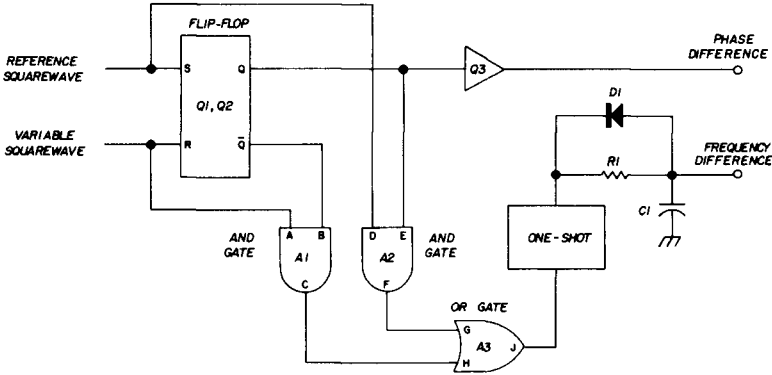
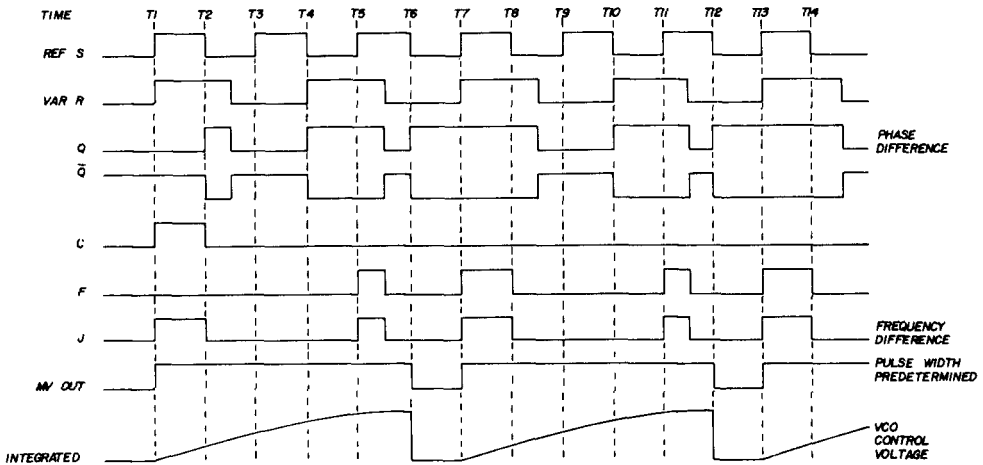

fig. 7. Logic diagram of a frequency and phase comparator.
fig. 8. Timing diagram of the frequency and phase-comparator stage in **fig. 7**.
If it's necessary that the synthesizer automatically set itself to a new frequency (as would be the case in a remote control situation), the circuit shown in fig. 7 could be used. The flip-flop is identical to that used in the phase comparator in fig. 4. It is shown here in its logic symbol form, which is easier to work with.
Briefly reviewing its operation, the reference squarewave is applied to the set (S) input, causing the Q output to go high until such time as the variable input signal (applied to the reset [R] input) causes the Q output to go low and the \bar{Q} (read NOT Q) output to go high. (To assist you, the following comparison is made to the flip-flop shown in fig. 4. The set input is C4, and the reset input is C3. The \bar{Q} output is the collector of Q2, and the Q output is the collector of Q1.) The frequency comparator in fig. 7 will provide the same phase difference signal as the phase comparator in fig. 4. In both cases the phase difference output is taken through a non-inverting buffer amplifier to minimize loading on the flip-flop.
The frequency comparison circuit makes use of the fact that if a frequency difference exists between the two input frequencies, the higher frequency signal will complete one cycle and at least start another before the lower frequency signal completes one cycle. Fig. 8 shows the waveforms present in the frequency and phase comparator shown in fig. 7.
gate 3) indicates that a frequency difference exists, but the J pulse is rather short in duration. This pulse could be converted to a ramp-shaped pulse, but the rapid rise-time of the ramp would cause the vco frequency to change too fast to be detected by the phase and frequency comparator. One way to stretch the length of the pulse is to apply it to a one-shot as is done in fig. 7.
Note in fig. 8 that the J output (OR
pulse is determined by the length of time it takes C2 to discharge through R6. By adjusting the RC time constant of C2-R6 it is possible to adjust the length of the output pulse. In **fig. 8**, the time constant is such that the output pulse is 5 times as long as the reference pulse. In practice it would be many times this length.
The one-shot output pulse in **fig. 7** is applied to the ramp-forming integrating net R1-C1-D1, resulting in the ramp-shaped pulse shown on the last line of **fig. 8**. This pulse is applied directly to a varactor in the vco to sweep its frequency. Once the frequency is within the capture range of the phase-lock loop, the ramp ceases, and the